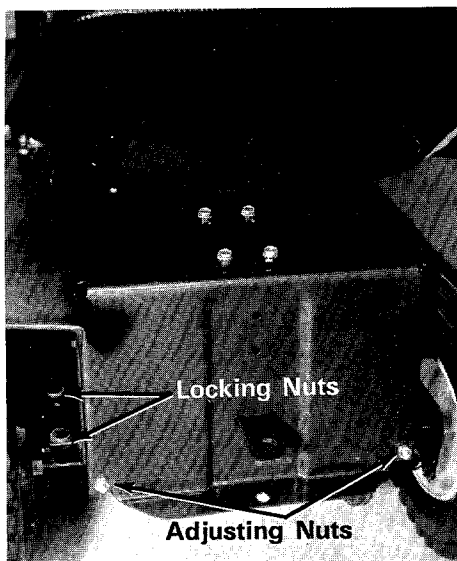

Figure 17.
1. To tighten the chain, loosen the two locking nuts on each side of the rear axle. (See figure 17.)